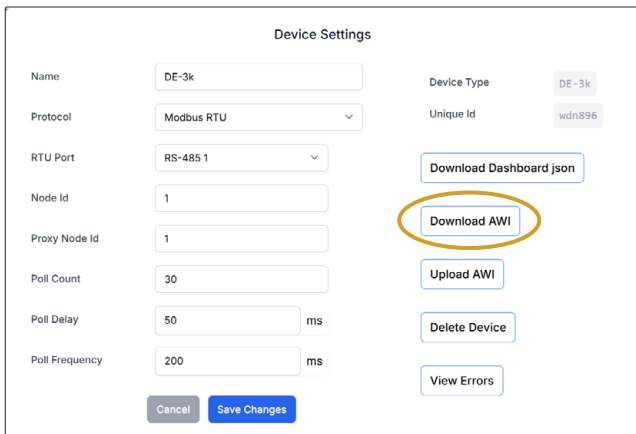
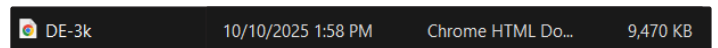

Figure 8
Figure 9
- In the Device Settings dialog, click the **Download AWI** button and save the DE-3000 AWI device profile to your computer. See Figure 8 and Figure 9.